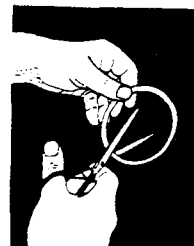

Figure 3
2. Make a cut in the shim(s) using a sharp scissors as shown, (See figure 3). It is important that you use scissors only - not "tin snips".